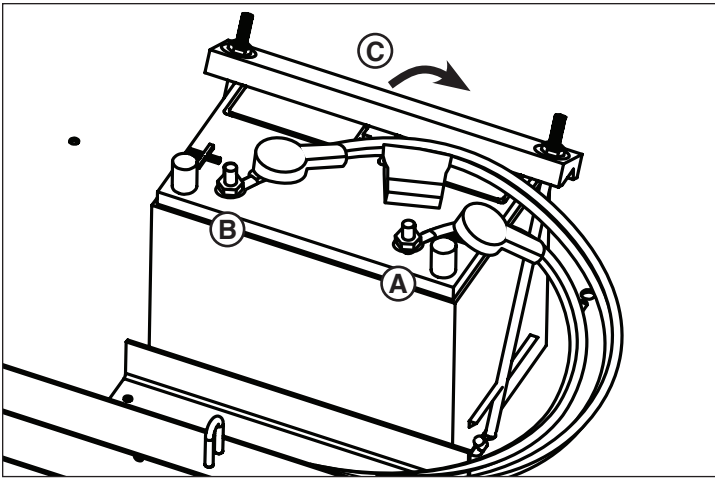

Figure 18
2. Disconnect the black negative (-) cable(s) from the negative (-) battery terminal (A, Figure 18), and secure away from the battery.
3. Disconnect the red positive (+) battery cable(s) from the positive (+) battery terminal (B, Figure 18), and secure away from the battery.
4. Loosen the hardware securing the battery hold-down (C, Figure 18), and move the hold-down back away from the battery.